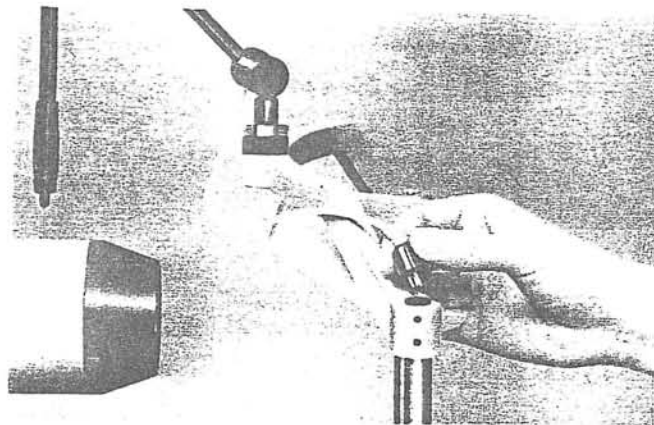

Fig. 2
- ° There are two receptacles provided for the eye fixation lamp cord, one on the top of the face rest stand and the other in the stage section. A plug is inserted into each of them as illustrated in figs. 2 and 3.